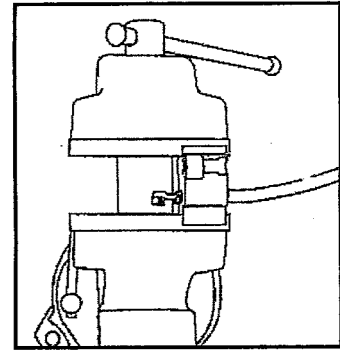

Figure 8
- Slowly close the vise making sure the tool and terminal stay properly positioned and aligned (Figure 8). Stop applying pressure when the terminal ends have wrapped securely around the sleeve and grip the wire.